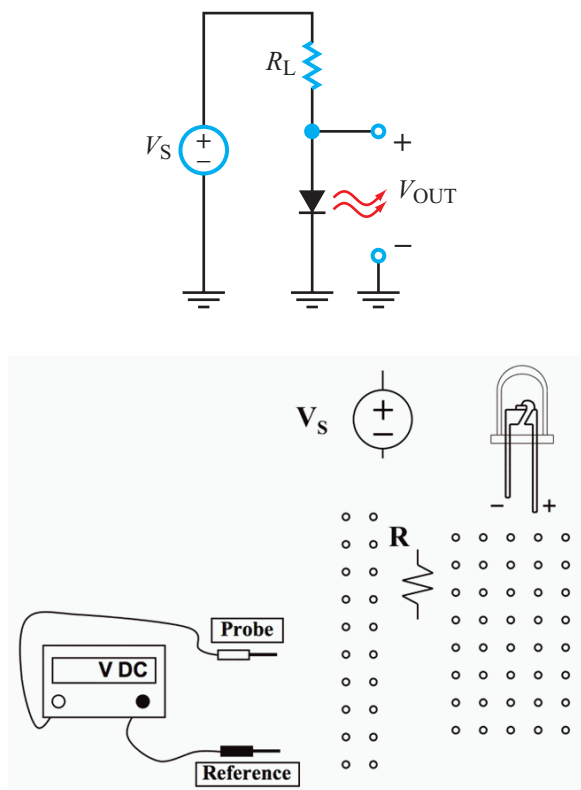

Figure 17: Implementation of resistor-LED circuit.
3. Draw connections for a circuit with an LED and resistor as shown in Figure 17. The power supply should be connected to the bus lines on the left, the resistor and LED should be connected to the individual nodes on the right, and the voltmeter should measure the output voltage across the LED.